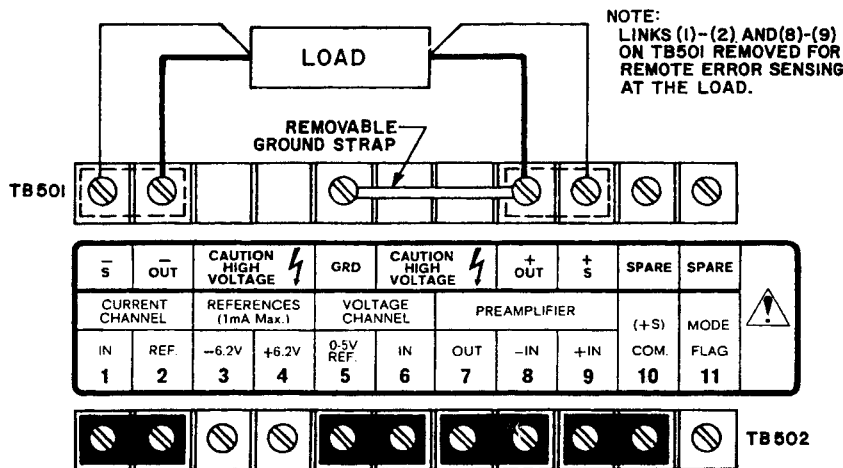

FIG. 3-2 REAR TERMINAL CONNECTIONS, APH POWER SUPPLY SET-UP FOR STANDARD VOLTAGE MODE OR CURRENT MODE OPERATION WITH LOCAL (FRONT PANEL) CONTROL OF THE OUTPUT.
2-7 **A-C SAFETY GROUND.** THE DANGEROUS VOLTAGES PRESENT IN THIS EQUIPMENT MAKE IT IMPERATIVE THAT THE CASE IS KEPT AT GROUND POTENTIAL AT ALL TIMES. If the 3-wire line cord with 3-prong safety plug (supplied with this equipment) is used in combination with a properly grounded outlet, this is taken care of automatically. If an adapter for a nongrounded outlet is used, however, the case must be grounded separately. A separate "GROUND" terminal is provided for this purpose on the rear of the APH. (See Section III, FIG. 3-2.)
**NOTE:** Grounding in FIG. 3-2, as well as in all other connection diagrams is indicated by means of the "ground strap," connected from the "(+) output" to "ground" terminal on TB501. Since the APH chassis is safety grounded by means of the 3-wire line cord, and the "ground" terminal is connected to the APH chassis, this connection serves as the "signal ground" in all diagrams. The ground strap may be removed, however, and the "signal ground" may be established elsewhere in the APH output/load circuit.
- a) DIAGRAMS. Application and test set-up diagrams in this section and in Section V of this manual represent the APH Power Supply by means of the barrier-strip terminal drawing shown in FIG. 3-2 A FOLD-OUT DIAGRAM IS PROVIDED AT THE END OF THIS SECTION (SECTION III) RELATING THE BARRIER-STRIP TERMINALS TO THE ACTUAL CIRCUITRY OF THE APH POWER SUPPLY.